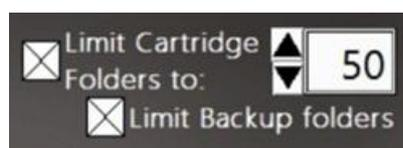

Figure 32: Limit Cartridge Data & Backup Folders controls
**Note:** If the instrument is configured to back up the data to a location on the internal hard disk (C:\), a second option appears (Limit Backup folders) . Checking this box limits the number of folders in the C drive backup folder (Figure 32).